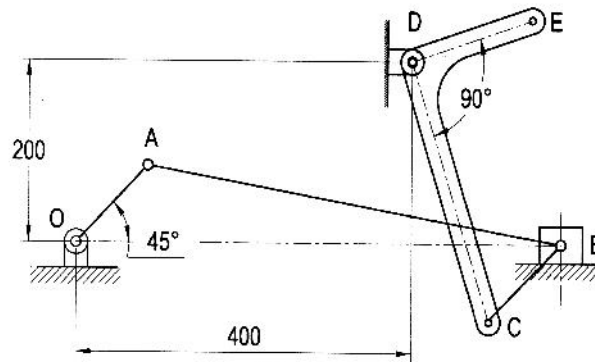

Figure 6
6. a) The various dimensions of the mechanism, as shown in figure 6, are  $OA=120\text{mm}$ ,  $AB=500\text{mm}$ ,  $BC=120\text{mm}$ ,  $CD=300\text{mm}$  and  $DE=150\text{mm}$ . the crank  $OA$  rotates at 150 rpm in CCW direction. The bell crank lever is  $DE$ . Determine the absolute velocity of point  $E$ . Use graphical method.